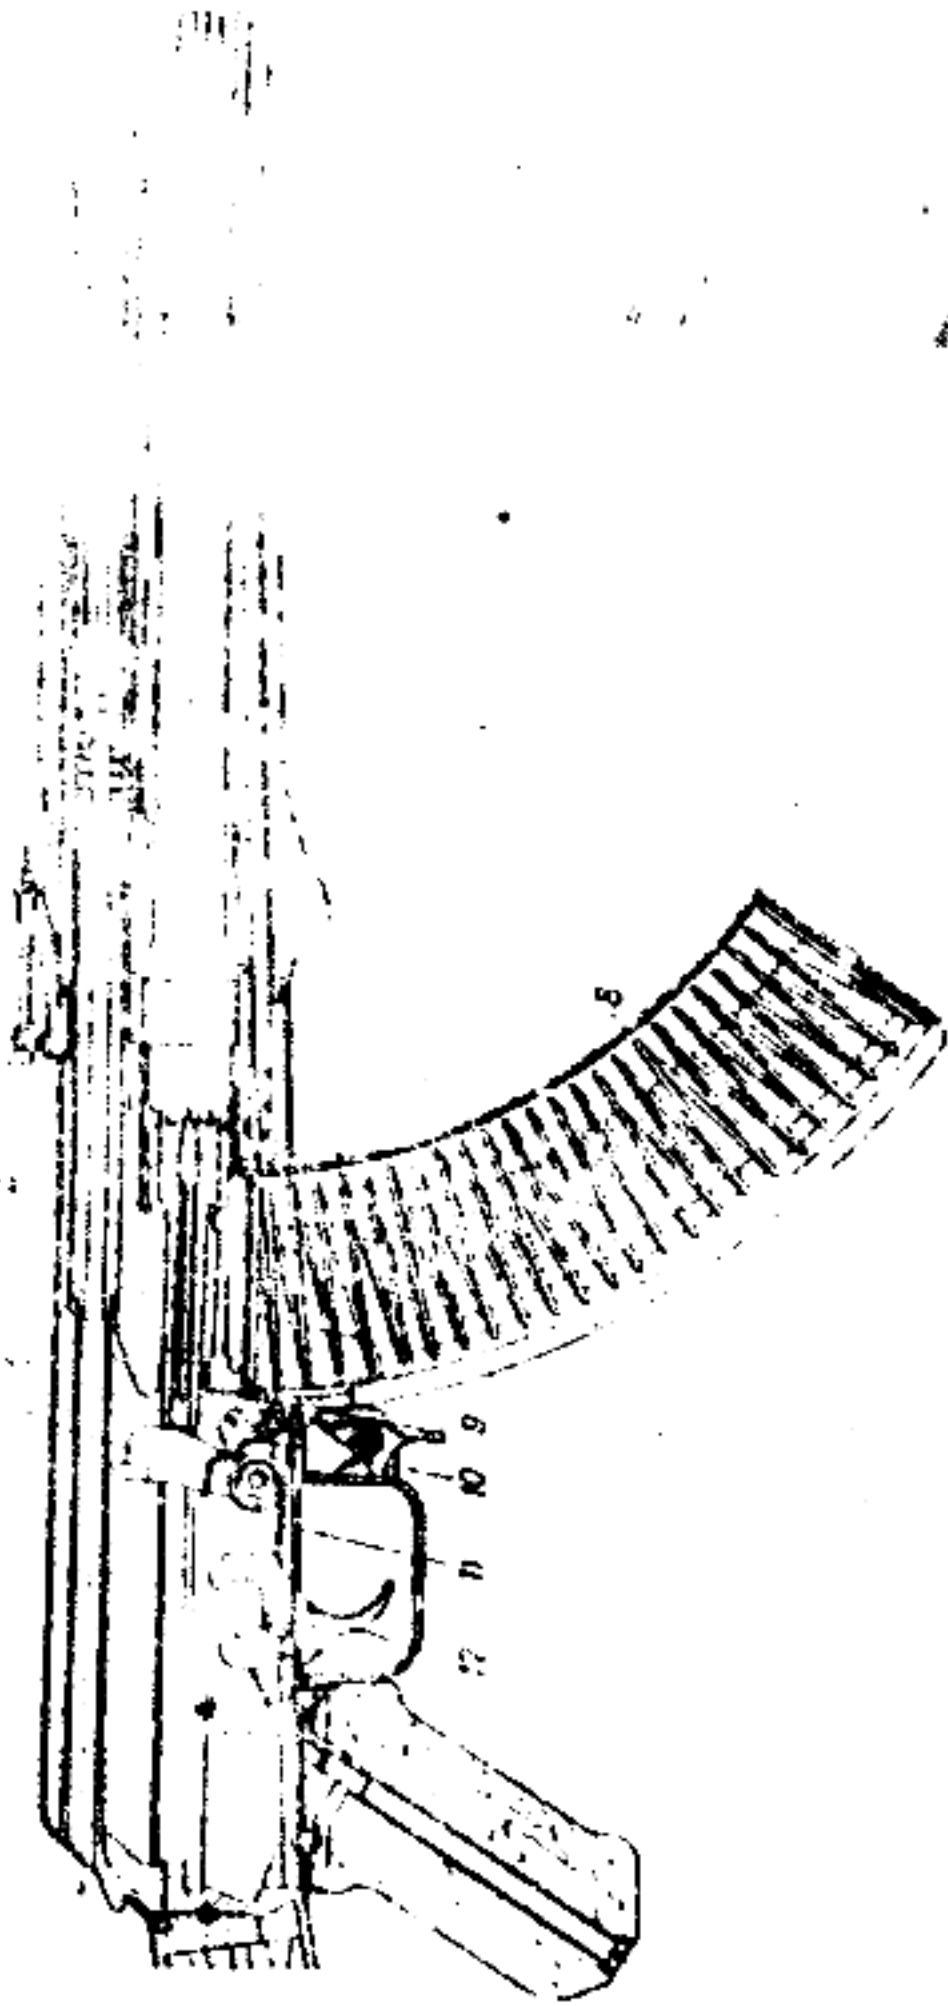

Figure 58. Position of parts before loading (vertical section).
The rifle is set on safety. An empty magazine (8) (fig. 58) is in place in the rifle. (In combat, a fully loaded magazine will be carried in the rifle.)